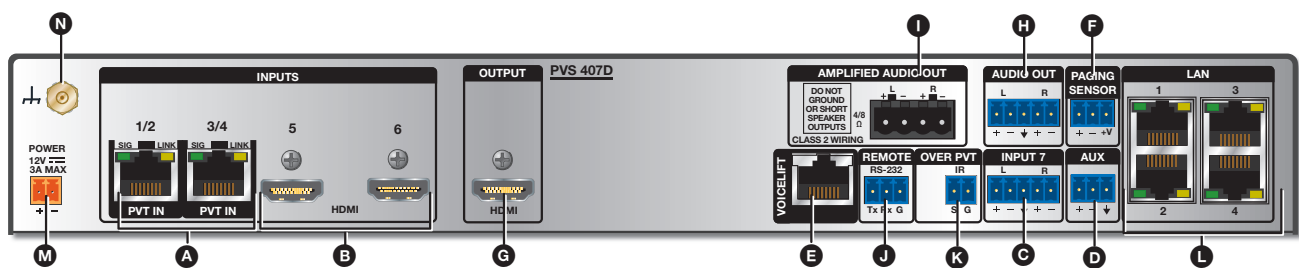
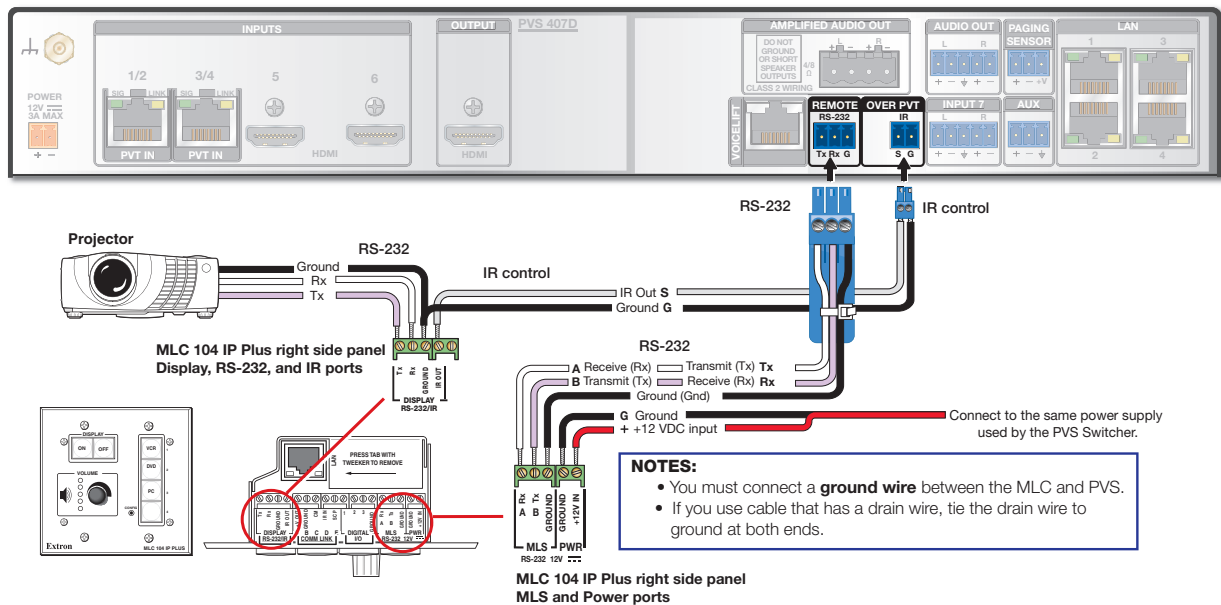

Figure 3. PVS 407D Rear Panel Features
Figure 4. MLC 104 IP Plus RS-232 and IR Connections to the PVS 407D
- B Inputs 5 and 6** (see **figure 3** on previous page) — Connect up to two HDMI sources (such as an Extron ShareLink device) to these female HDMI digital video connectors. Use the Extron LockIt device to secure the HDMI cable at the switcher (see **Securing the HDMI Cable** on page 9 for securing the cable).
- J Remote RS-232 control port** (see figure 3 on page 5) — Connect a host computer, control system, or MLC controller to this 3.5 mm captive screw 3-pole connector for direct switcher control via RS-232 (see figure 4 below).
- K Over PVT (IR insert port)** — For IR control for a source device, connect the IR port on the MLC to this 3.5 mm captive screw 2-pole connector (see figure 4 below). This routes IR transport control signals via an IR device connected to the PVT wallplate front panel.